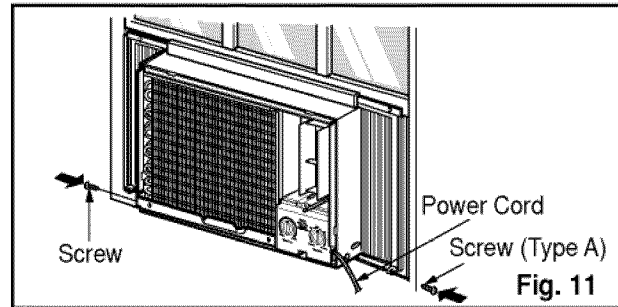

Fig. 11
7. Slide the unit into the cabinet.(See Fig. 11)